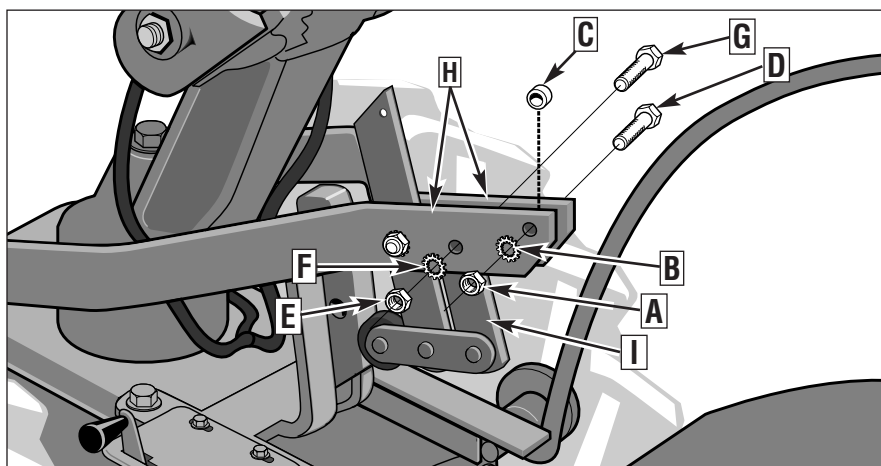

Figure 2-6: Illustration shows the yoke plates (H), nuts, washers, and screws (A, E, B, F, D, G), bushing (C), and long and short links (I, J).
2. Remove both sets of nuts, star washers, screws, and one bushing (A, B, C, D, E, F, G, Figure 2-6) from the yoke plates (H). There is a bushing inside the short link (I). Be careful not to lose it when removing screw (G).
4. Align the rear most holes of the yoke plates and the Wheels/Tines/PTO Lever. Use long nose pliers to hold the bushing (L, Figure 27) in place while inserting the screw (K) through the lever and yoke plates. Install star washer (B, Figure 2-6) and nut (A), then hand tighten.